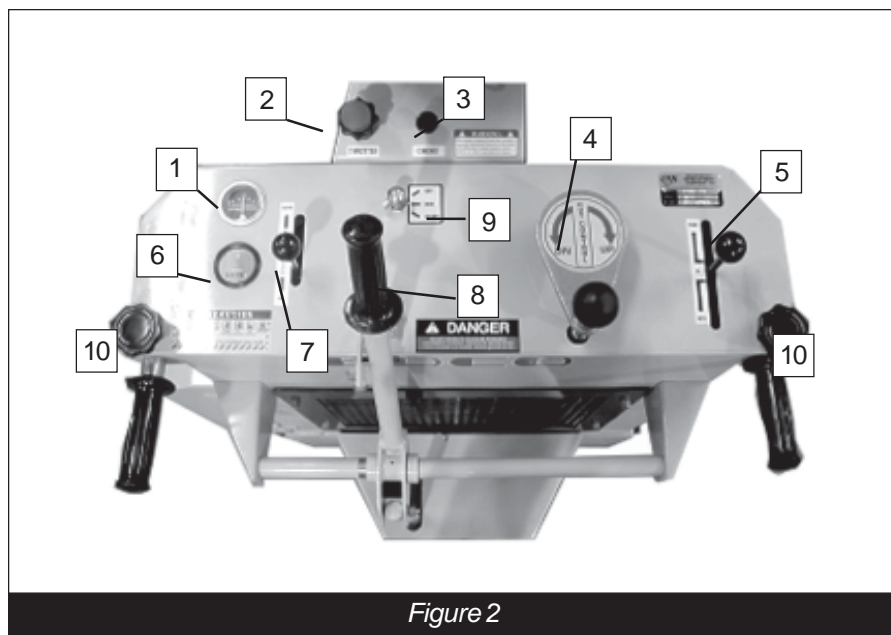

Figure 2
- Locate and be familiar with all engine and operating controls (Figure 2).
- Adjust the extendable handles for operator comfort and safe operation. Be sure to retighten handle locks once handles are positioned. (Figure 2, Item #10)
- Be sure cutter head is raised to the full "up" position using the drum lift lever on the console. (Figure 2, Item #7) This EDCO Scarifier uses a battery powered hydraulic pump.